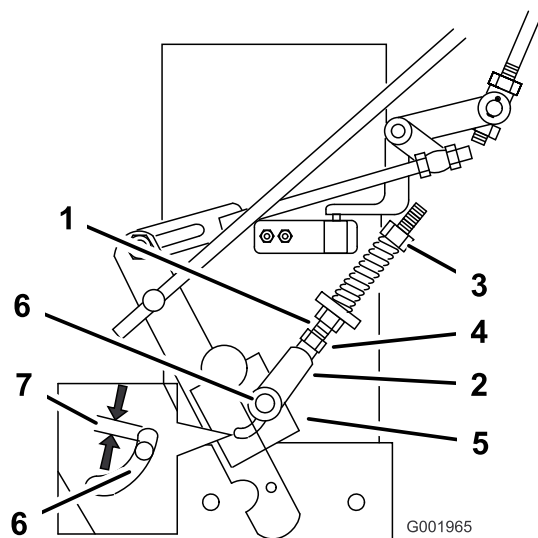

Figure 46
3. Loosen the nut against the yoke (Figure 46).
4. Adjust the length of the neutral stud and yoke assembly so the clevis pin does not contact the back of the slot in the control arm bracket (Figure 46).
5. Tighten the nut against the yoke (Figure 46).